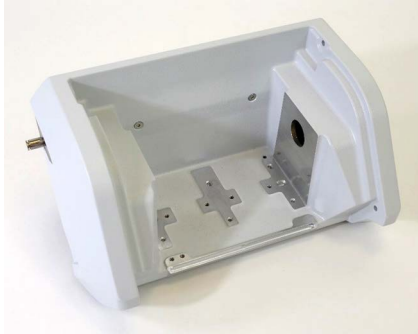

Figure 4: Cell module without top lid and bottom cover. No measurement cell mounted.
1. Remove the top lid and the bottom cover from the empty cell module to provide enough space for the third-party cell (see fig. 4).